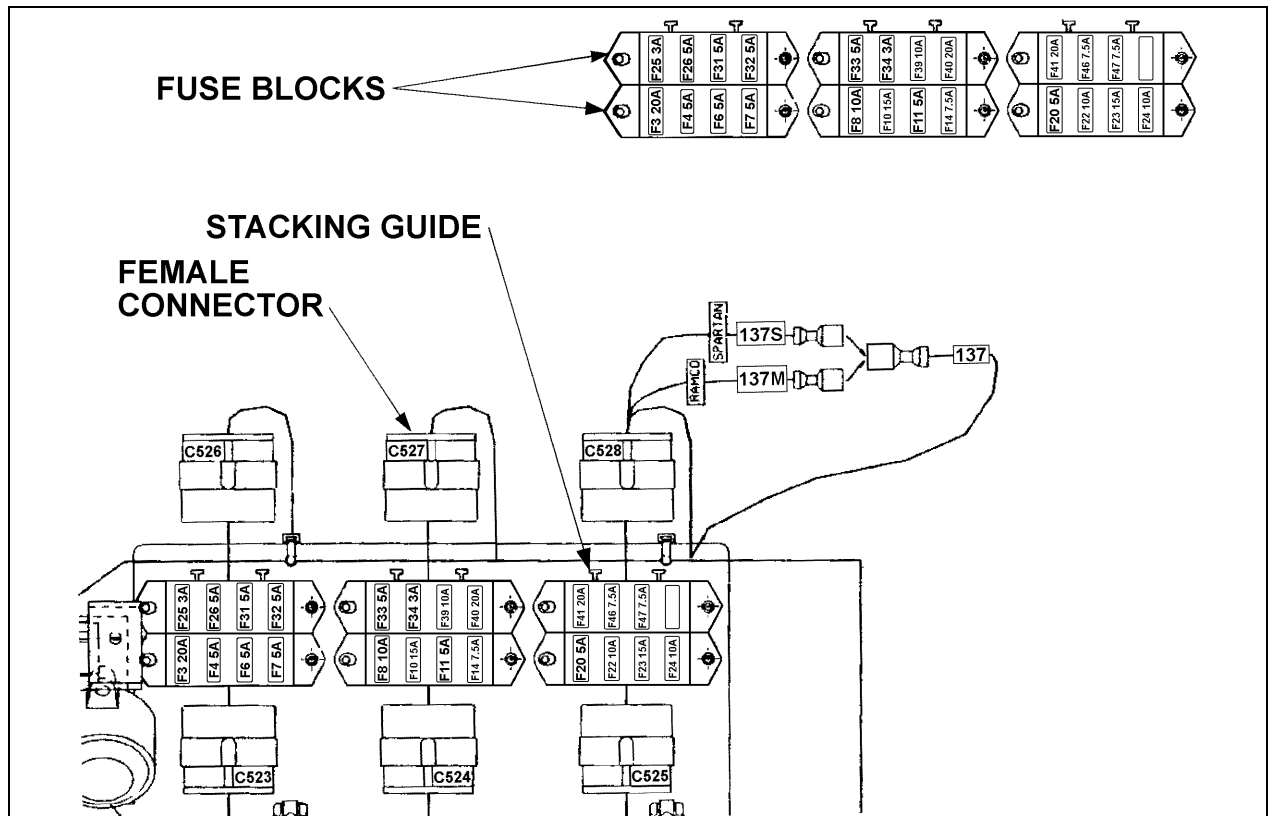

FIGURE 1: FRONT SERVICE COMPARTMENT (H3-41 ET H3-45)
2. Unscrew fuse block and position upwards as per figures 1 and 4.
3. Secure fuse block and relocate fuses properly as per figures 1 and 4.